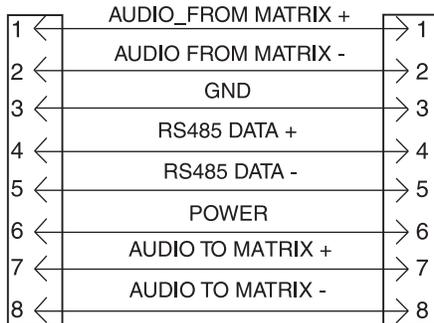

Figure 8. CAT-5 (RJ-45) Intercom cable wiring diagram.
**Note:** If you are providing your WKP-1 keypanel with remote power use the WKP-1BOP (see figure 8, page 17).